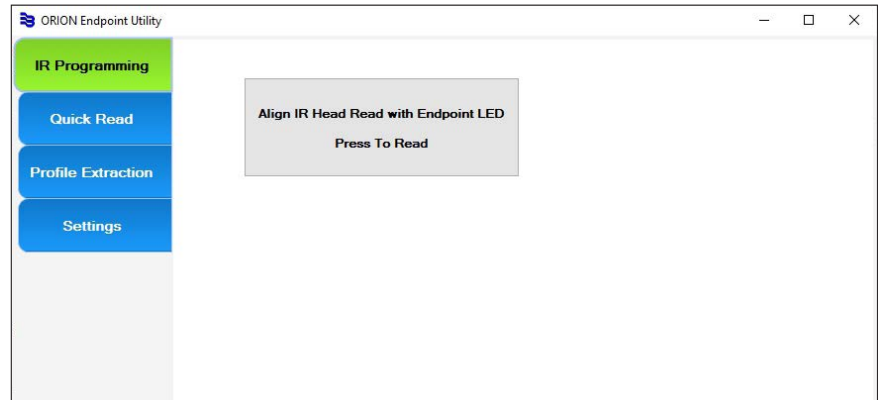

Figure 13: ORION Endpoint Utility main screen with IR Programming selected
1. With the **IR Programming** button selected (Figure 13), align the optical head of the IR cable with the endpoint IR LED port.